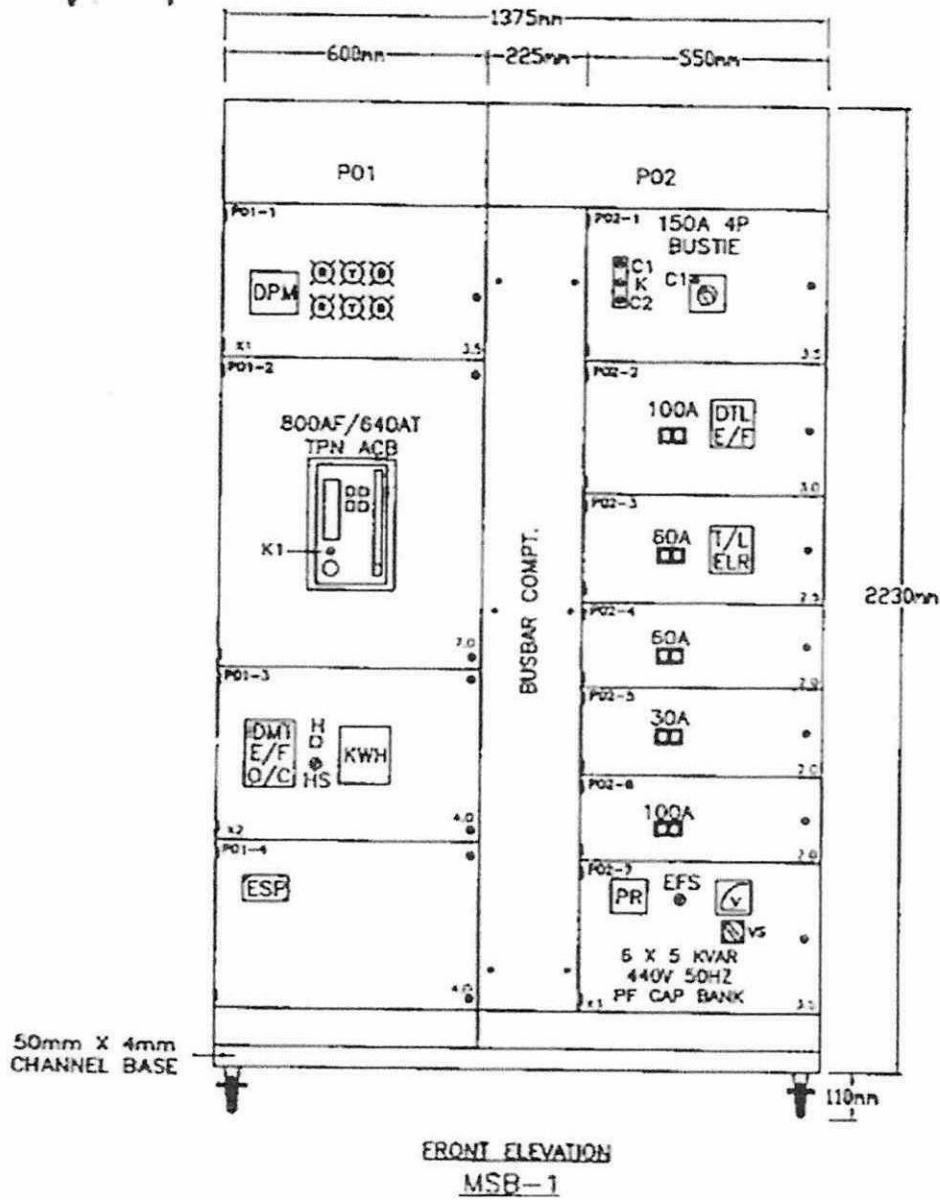

Figure Q1(b) Main Switch Board (MSB) Panel
- (b) **Figure Q1(b)** in Appendix shows General Arrangement (GA) of Main Switch Board (MSB) panel with components used for the operation of the panel.
- (i) With reference to the **Figure Q1(b)**, state which protection relay trips the ACB and which protection relay trips the MCCB. (3 marks)
- (ii) Describe the operation of Earth Leakage Relay (ELR) including the type of Current Transformer (CT) used in its application. (5 marks)
- (d) The total load of a Low Voltage (LV) switchboard panel is 35 kW. Considering Power Factor (PF) of 0.86 and Safety Factor (SF) of 125%,